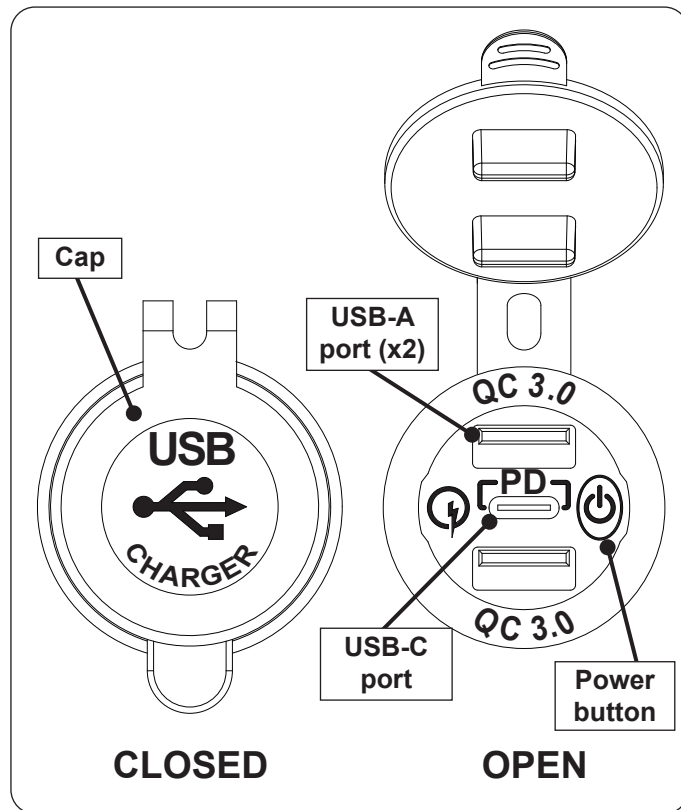

Fig. 41-1 USB outlet overview
Fyrestarter (H) models are equipped with a USB outlet for charging electronic devices. To use, see Fig. 41-1 and follow the steps below.
1. Locate the control panel on the side of the unit (refer to the IDENTIFICATION PARTS LIST if needed), and identify the USB outlet (see Fig. 41-1).